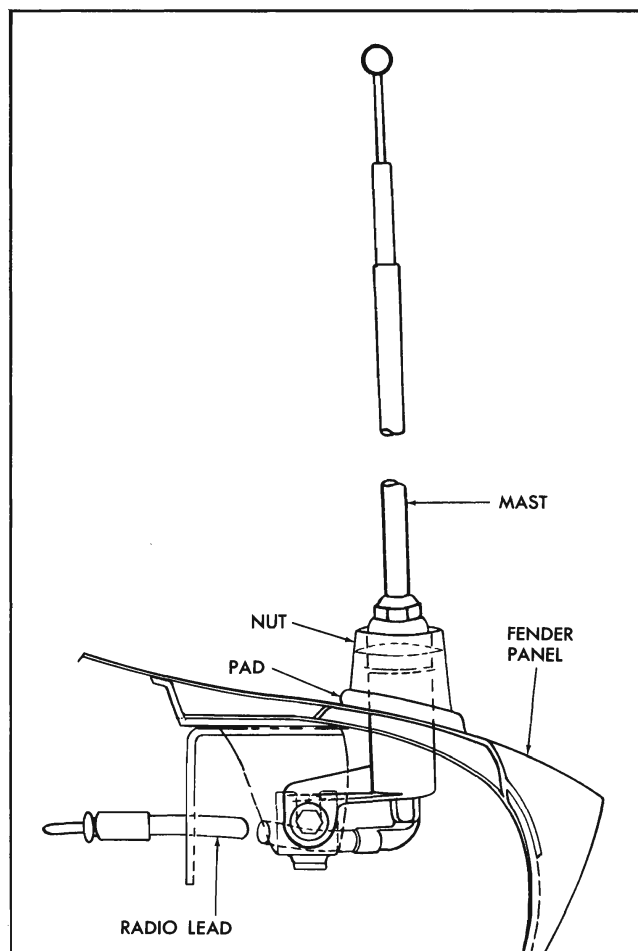

Fig. 12-6 Antenna Installation
6. Remove upper nut, adapter, and pad (Fig. 12-6).